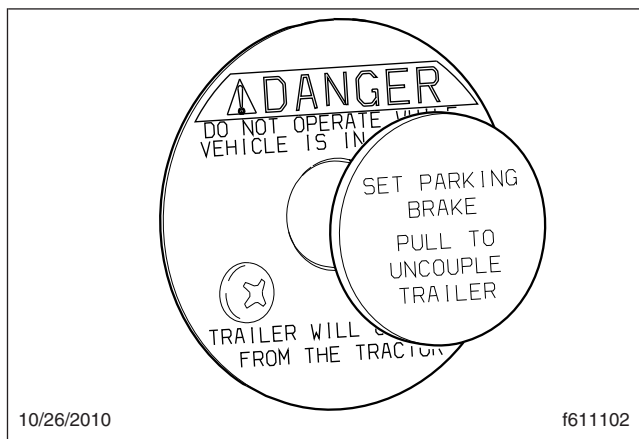

Fig. 17.11, Air-Actuated Kingpin Release Valve
An air-actuated kingpin release valve is optional with all fifth wheels. See Fig. 17.11.
2. Pull and hold the kingpin release valve (Fig. 17.11) until the kingpin lock mechanism opens and locks in place.